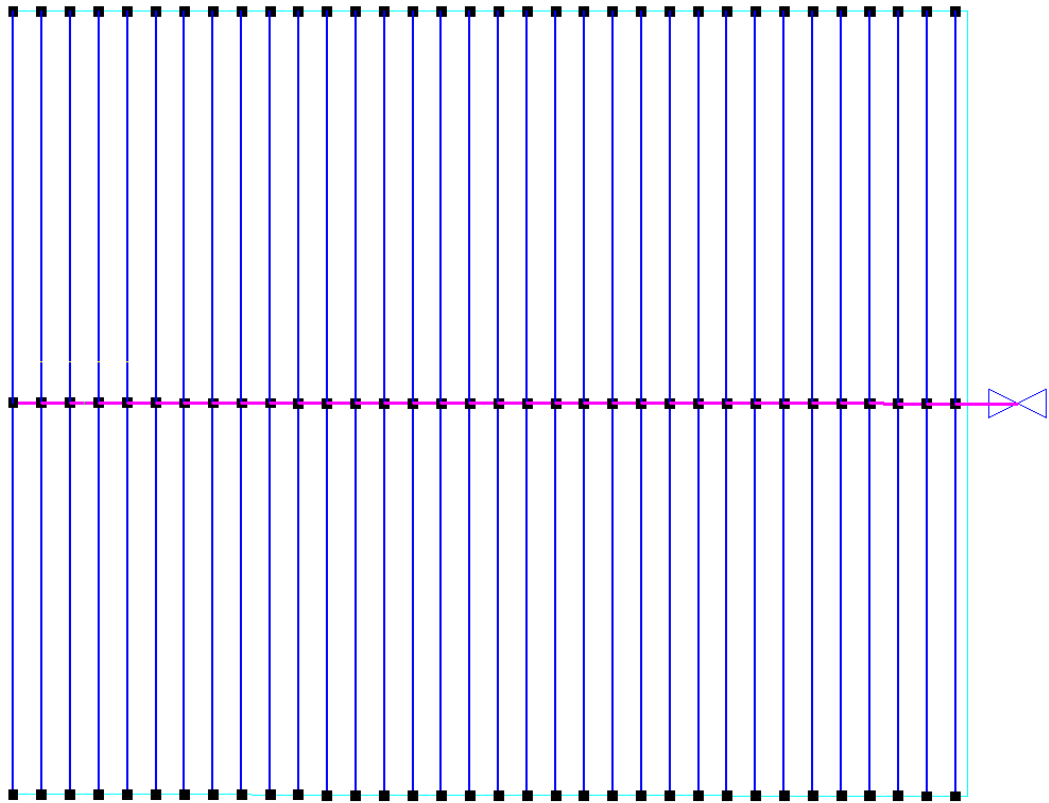

Figure AD 3
12. Now we need to select the lateral direction. Because “Determine Automatically” was selected, we can just click on the boundary we wish to align the laterals with. The block will automatically fill with tapes 2m apart. Select *View|Zoom All*. Once this is completed the laterals are automatically drawn, with a submain through the centre of the block and with a central valve as in Figure AD 3.